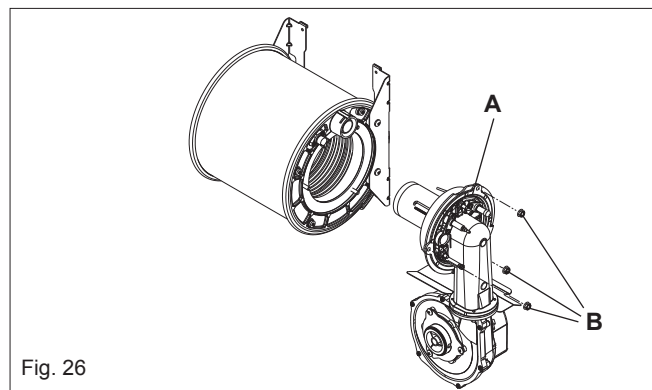

Fig. 26
**Fig. 26:** To remove the fan/burner assembly **(A)** locate and remove the 3 external nuts **(B)**. Replace in the reverse order. Ensure all seals are in good condition, taking care to ensure they are replaced correctly.